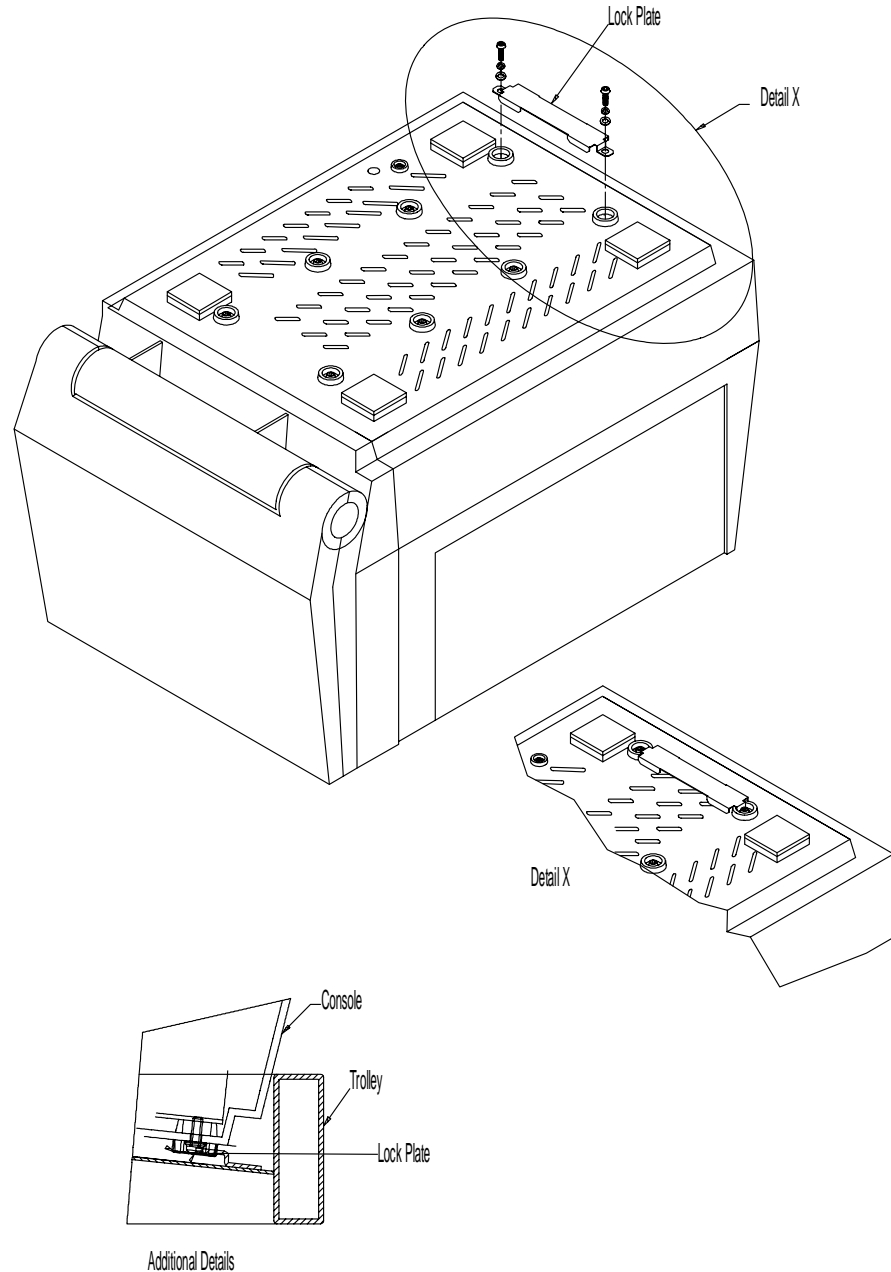

Figure 3-11 Installation of Trolley
- 3.) Remove two M4X10 screws from the base of LOGIQ™ 100 PRO and fix lock plate. Refer Figure 3-11
- 4.) Place the unit with lock plate fixed on Trolley, ensure that lock plate gets into the projection on the trolley. Refer Figure 3-11